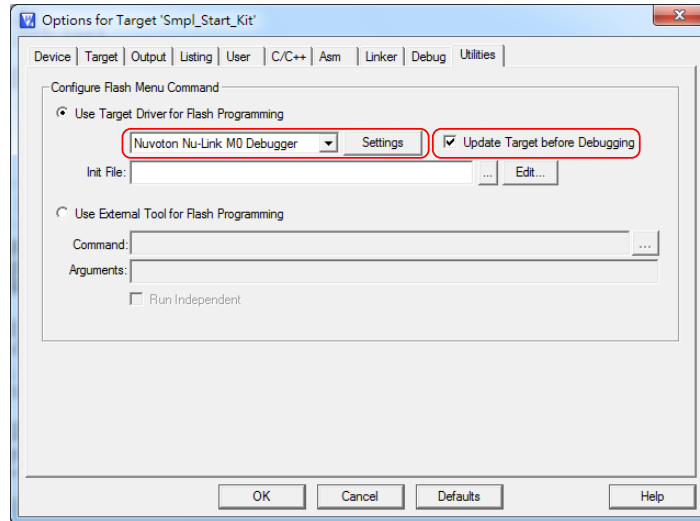

Figure 4-12 Keil RVMDK Programmer Selection
Step 6: Invoke **Project** → **Options for Target** → **Utilities**, select “**Nuvoton Nu-Link M0 Debugger**” when the **Use Target Driver for Flash Programming** option is enabled, and then select the **Update Target before Debugging** option, as shown in Figure 4-12.